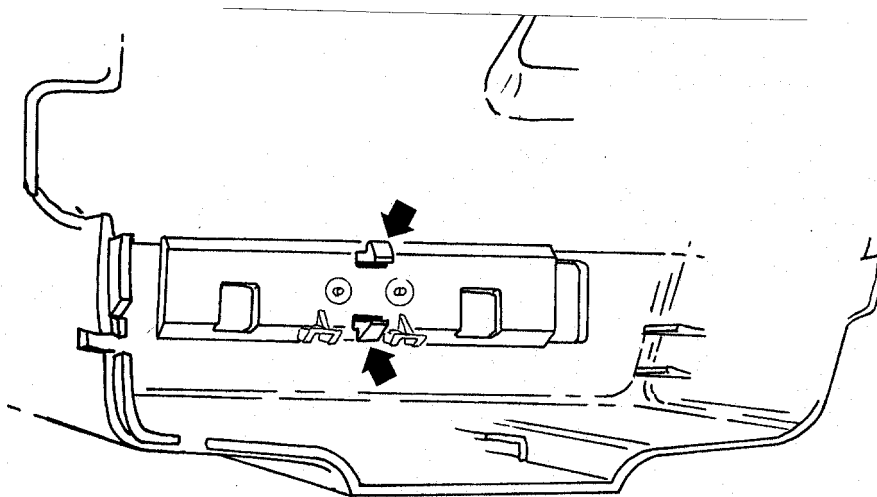

Fig. 14 Removing the Strap Assembly
14. Remove the piece parts from the Camera Body, beginning with the Strap Assembly. From inside the Body, depress and release the tangs at the center of the Strap Assembly (Fig. 14). From the outside, free the ends of the Strap Assembly from the Body and remove it.